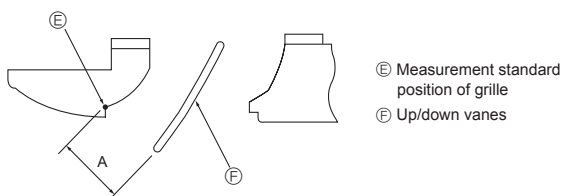

Fig. 7-10
- To adjust the desired airflow direction, slowly move the up/down vanes within the specified range. (Fig. 7-10)